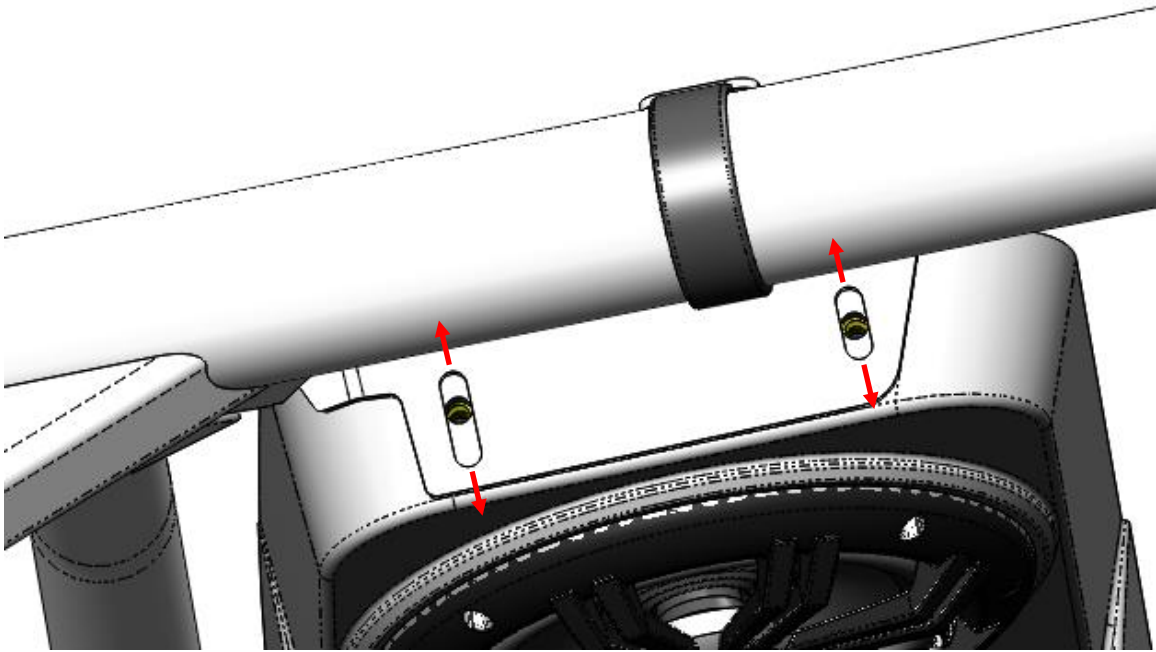

Figure 8: Up-down positioning of the Audio Mini.
7. Tighten the 4 mounting bracket bolts after achieving the desired viewing position relative to the roof or roll cage. Slots in the brackets allow for adjustability to achieve your desired viewing position. See Figure 8.